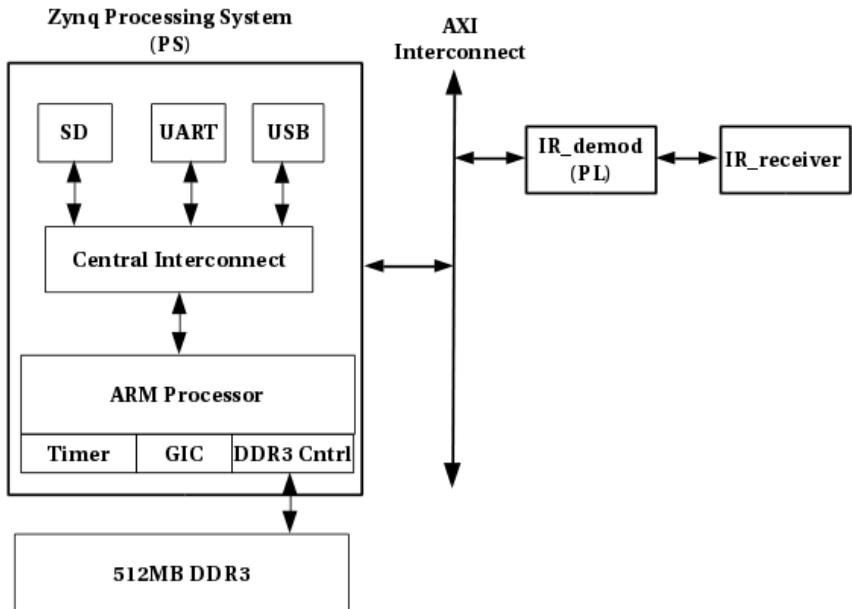

Figure 2: Zynq System Diagram
- (a) Create a block design in Vivado with everything shown in Figure2, except the IR hardware. If any doubts about the procedure refer to lab 4.